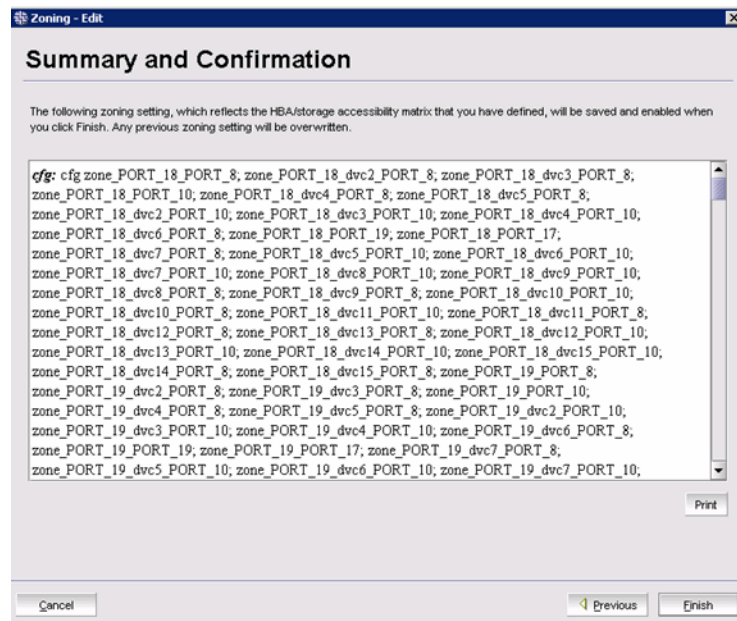

FIGURE 43 Zoning summary information
6. When you are done making changes, click **Next** and the zoning **Summary and Confirmation** screen is displayed (Figure 43). Use the **Print** button if you would like a printed record of the zoning scheme.